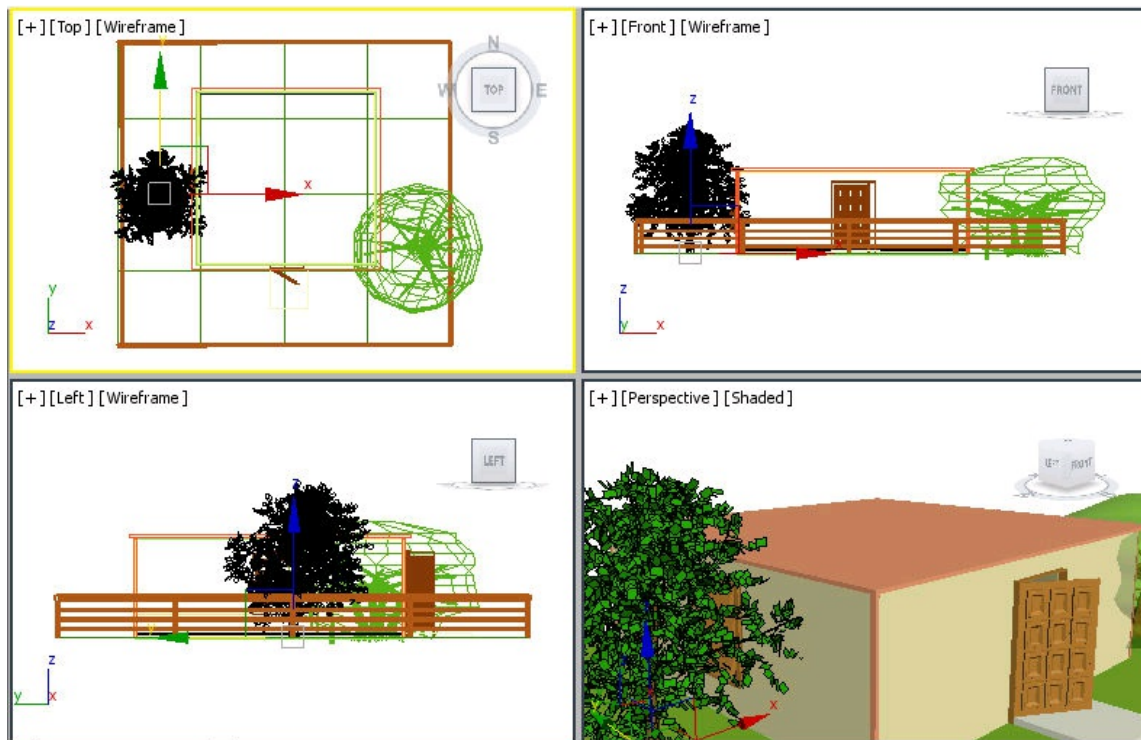

Figure 4-85 The *tree02* geometry in viewports after the alignment
11. Choose the **Select and Move** tool and align *tree02* in the viewports, as shown in Figure 4-85.